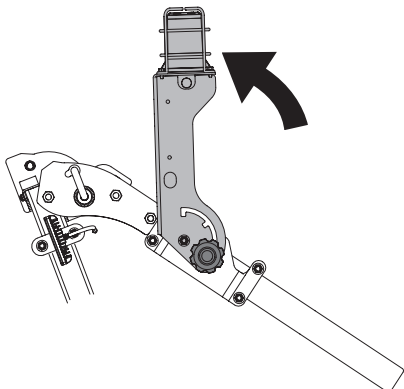
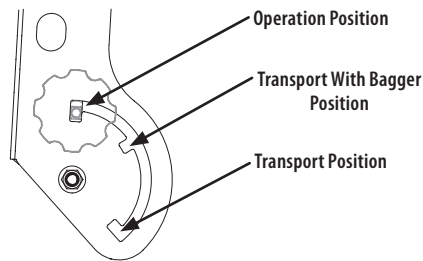

Figure 3-5
Figure 3-6
3. Rotate the assembly to face the beacon light straight upward. See Figure 3-5.
**Note:** In Figure 3-5 the ROPS is shown in Transport Position. Take note of the settings used for the different beacon light positions. See Figure 3-6.